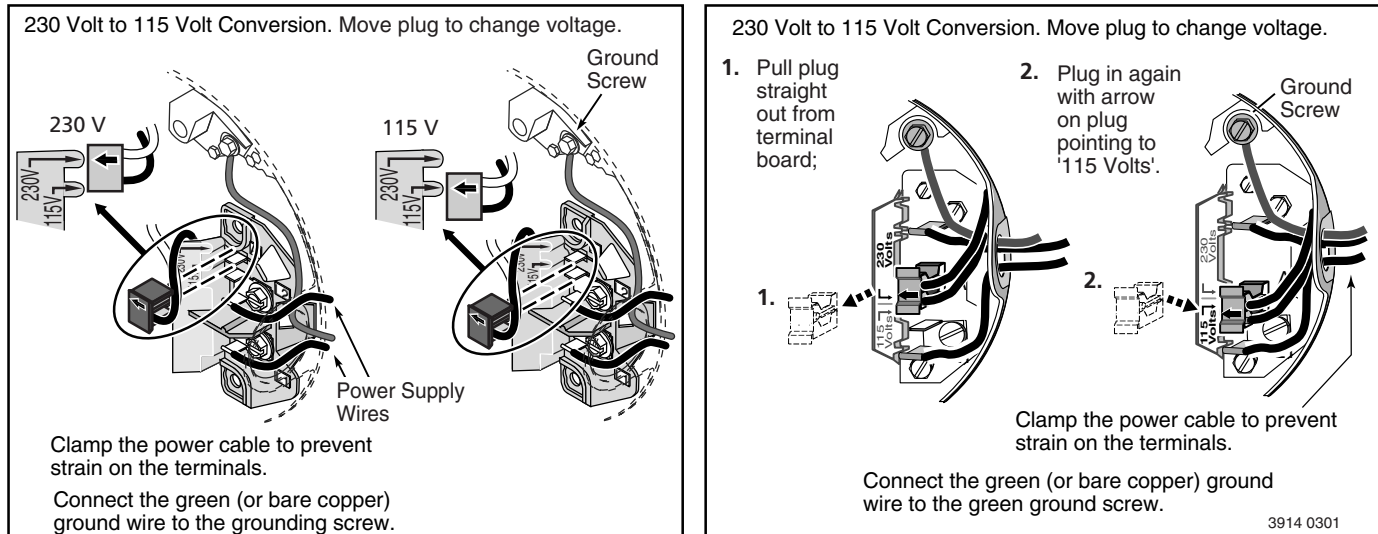

Figure 12 – 115/230V Dual Voltage Single Phase Wiring Diagram
- Step 7. Connect current carrying conductors to terminals L1 and L2 under motor canopy. When replacing motor, check wiring diagram on motor nameplate against Figure 12. If the motor wiring diagram does not match either diagram in Figure 12, follow the diagram on the motor.
- IMPORTANT:** 115/230 Volt single phase models are shipped from factory with motor wired for 230 volts. If power supply is 115 volts, remove motor canopy and reconnect motor as shown in Figure 12. Do not try to run motor as received on 115 volt current.